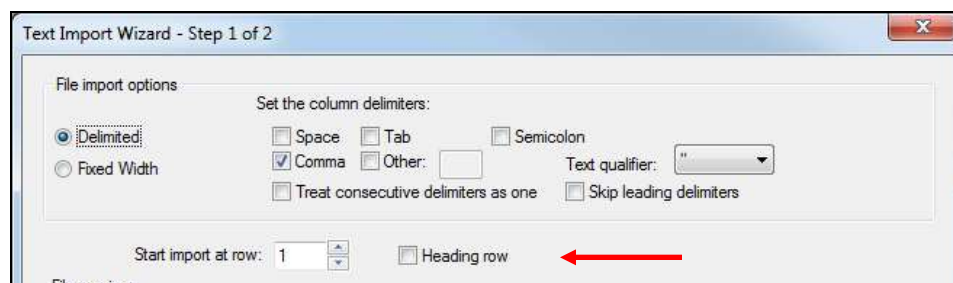

Figure 3 The top of the *Text Import Wizard* dialog
- Select “recharge.csv” and click **Open** to exit the *Open* dialog and bring up *Step 1 of 2* of the *Text Import Wizard* dialog (top shown in Figure 3).
This wizard is used to import text data into a GMS project. Note that if the text file being imported has a heading row, the *Heading row* box must be checked for the data to be properly imported (red arrow in Figure 3). In this example, there is not a heading row so the box should not be checked here.